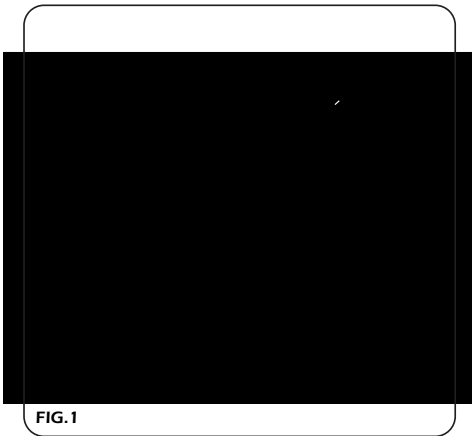

FIG. 1
- **CURRENT MEASUREMENT (Fig. 1.):**